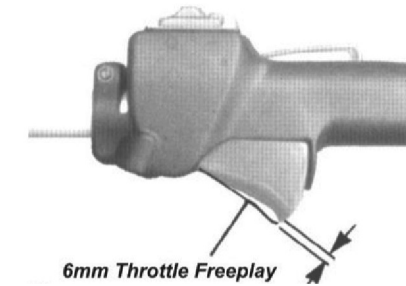

figure 10
2. Adjust the throttle cable adjuster nuts until you achieve a free play on the throttle trigger of about 6mm. See Figure 10.